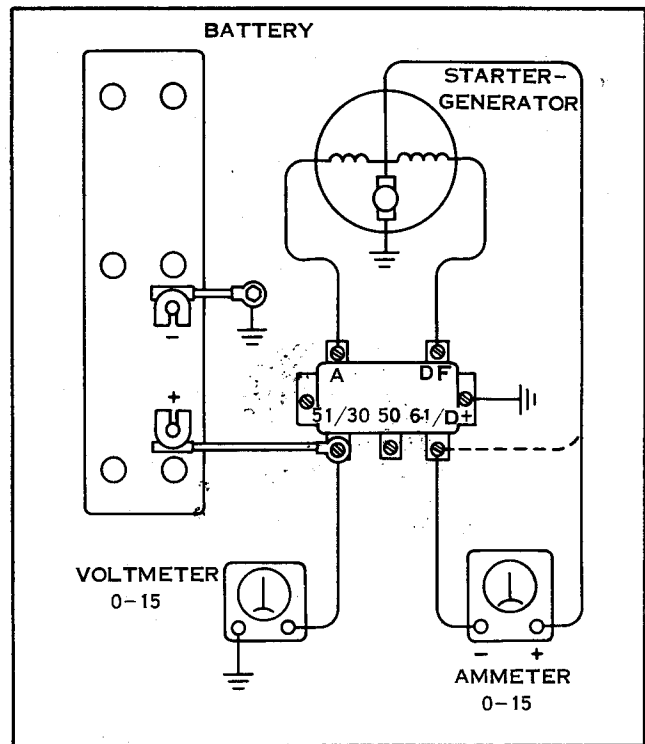

Figure 5I-3. Voltage Regulator Test
1. Remove the black wire at the control box terminal marked 61/D+. Using a 0-15A. D.C. Ammeter, connect the negative lead to 61/D+ terminal and the positive lead to the black wire removed from the terminal. See Fig. 5I-3. Start the engine and run in neutral at 2000 rpm. If ammeter shows more than 1/2 amp., cutout relay is functioning correctly and voltage unit is operating.
2. If ammeter does not show a charge on above test, proceed directly to Step 3. If ammeter does show a charge, check the voltage values running the engine at 3500 rpm. (Use electric tachometer for 2-cycle engine, and connect a 0-15 V. D.C. voltmeter from 51/30 terminal of control box to ground.) See Fig. 5I-3.